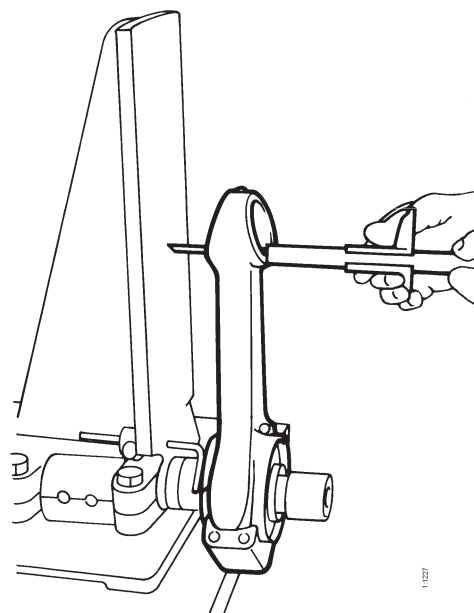

Figure 5-48
6. Check if the connecting rod is bent into an “S” shape. Measure the distance from the outside of the rod and the surface of the tool. Turn the connecting rod 180° and measure again (**Figure 5-48**).